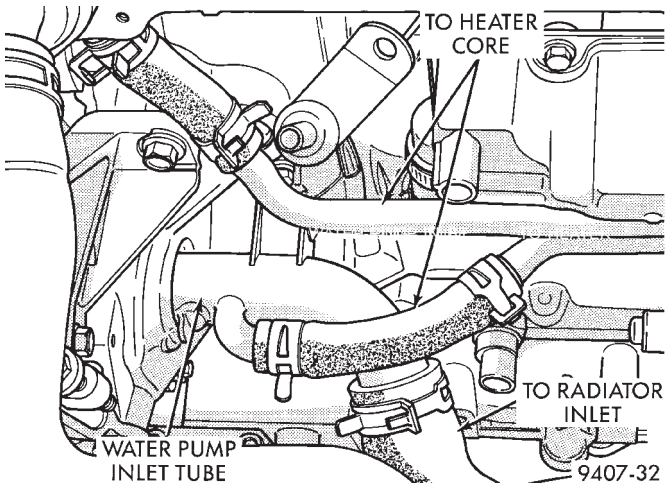
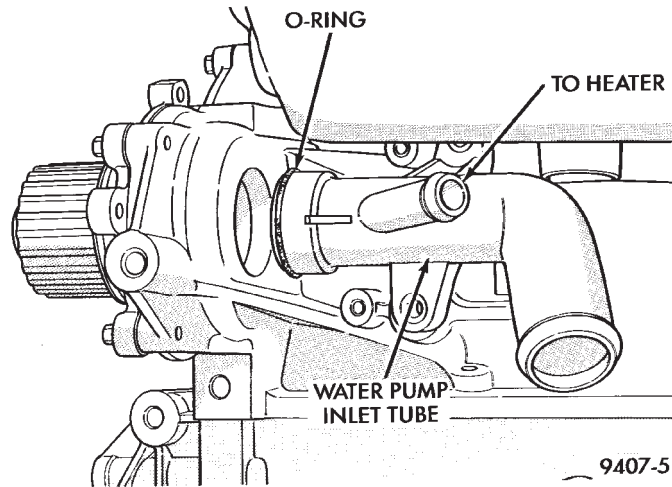

Fig. 27 Water Pump Inlet Tube Hose Connections
Fig. 28 Water Pump Inlet Tube—Service
- (1) Drain cooling system. Refer to procedure outlined in this section.
- (2) Remove upper radiator hose to access the hose connections at the inlet tube.
- (3) Remove lower radiator hose and heater hose from the inlet tube (Fig. 27).
- (4) Remove the 2 fasteners from that hold the inlet tube to the block.
- (5) Rotate tube while removing the tube from the engine block (Fig. 28).
- (1) Inspect the O-ring for damage before installing the tube into the cylinder block (Fig. 28).
- (2) Lube O-ring with coolant and install into the cylinder block opening.
(4) Connect lower radiator hose and heater hose to inlet tube (Fig. 27).
(5) Install upper radiator hose.
(6) Fill cooling system. Refer to procedure outlined in this section.